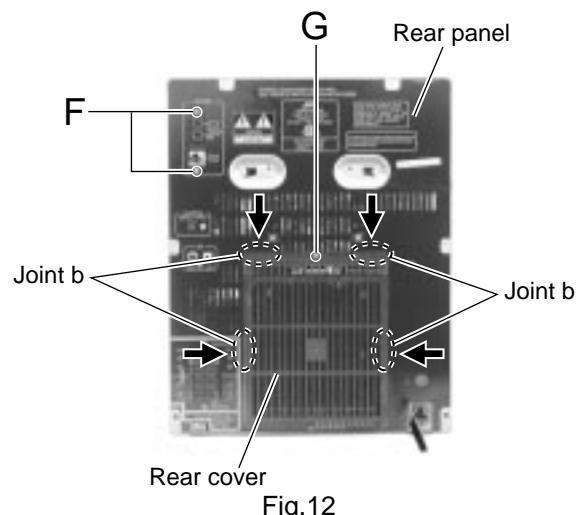

Fig.12
■Removing the rear cover / rear panel (See Fig.12 to 15)